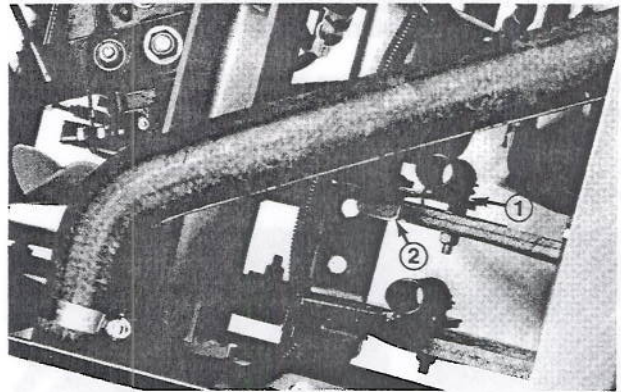

Figure 27
2. Measure distance from bottom of spacer on pulley mounting screw to bottom of slot in idler adjustment link (Fig. 27). Distance should be .25" or less.